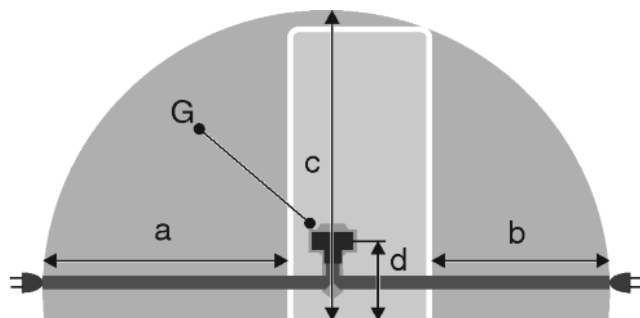

Fig. 41
- The socket is outside the back of the appliance area in the specified area Fig. 41 (a, b, c).
- Insert the appliance plug Fig. 41 (G) into the back of the appliance. Ensure that it clicks into place.